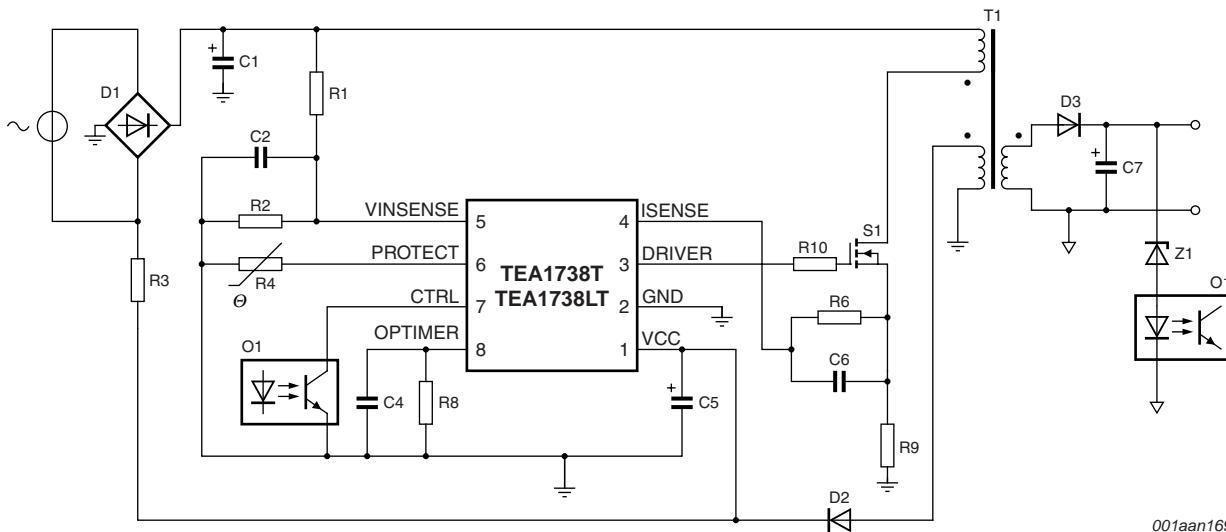
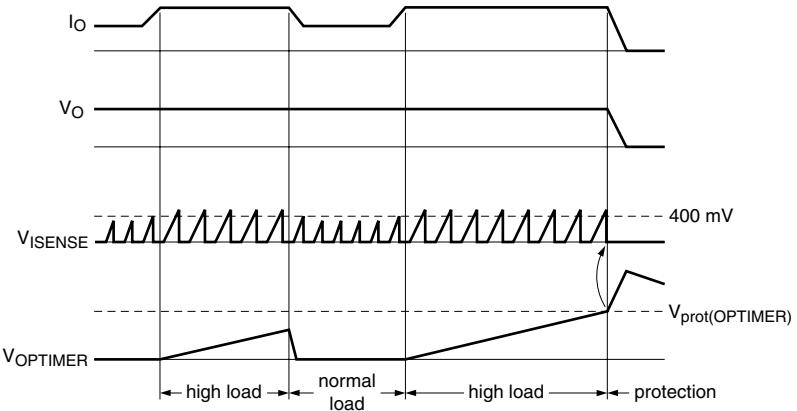

Fig 3. Typical configuration
Fig 5. Overpower delay (TEA1738T)
The TEA1738(L) contains a flyback circuit controller, a typical configuration of which is shown in Figure 3.
If the OPTIMER pin is connected to capacitor C4 (see Figure 3), a temporary overload situation is allowed. $V_{\text{ctrl(Ipeak)}}$ (see Figure 1) is set by pin CTRL. When $V_{\text{ctrl(Ipeak)}}$ is above 400 mV, the $I_{\text{IO(OPTIMER)}}$ current (11 μA typical) is sourced from the OPTIMER pin. If the voltage on the OPTIMER pin reaches the $V_{\text{prot(OPTIMER)}}$ voltage (2.5 V typical) the OverPower Protection (OPP) is triggered (see Figure 5).
The primary current is sensed by the ISENSE pin across external resistor R9 (see Figure 3) and compared with an internal control voltage. The internal control voltage is proportional to the CTRL pin voltage (see Figure 7).
A soft start is performed to prevent audible noise during start-up or a restart condition. Before the converter (re)starts, soft start capacitor C6 (see Figure 3) on the ISENSE pin is charged. When the converter (re)starts switching, the primary peak current slowly increases as the soft start capacitor discharges through the soft start resistor (R6, see Figure 3).